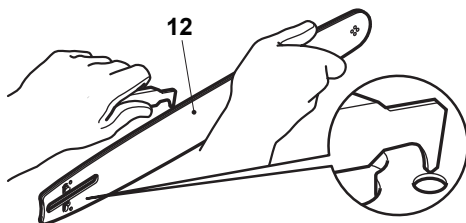

Fig. 40
3. Check the drive sprocket (10). If it is worn or damaged due to strain, have it replaced by an authorised service agent or a similarly qualified person.
4. Clear residue from the rails on the guide bar (12) by using a screwdriver, putty knife, wire brush or other similar tool. This will keep the oil passages open to provide proper lubrication to the guide bar (12) and saw chain (11) (Fig. 40).